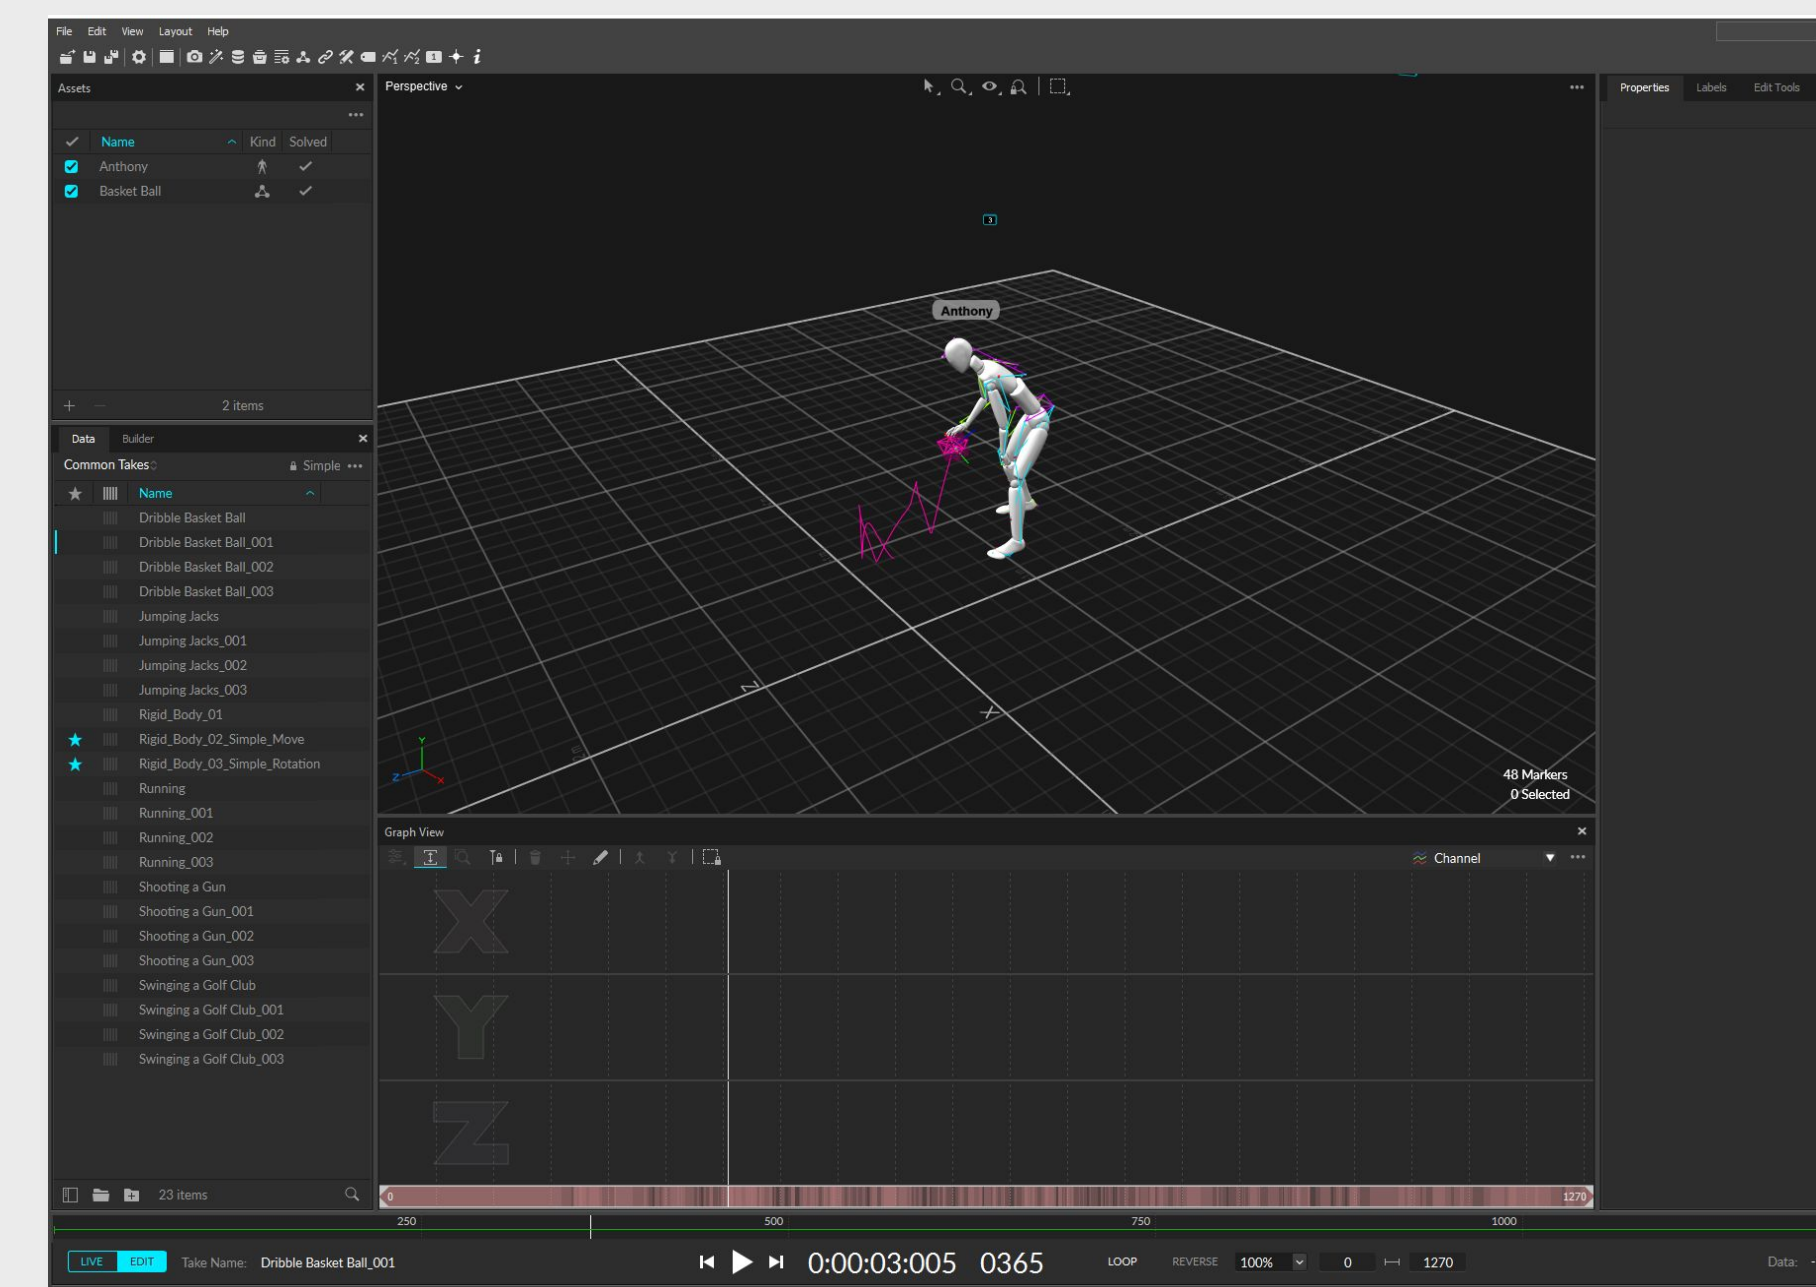

Figure 1: OptiTrack's Motive software displaying real time motion-capture data.
- Motive is a software that works with the OptiTrack camera system to manage and display motion capture data. See figure 1 for a screenshot of the application.